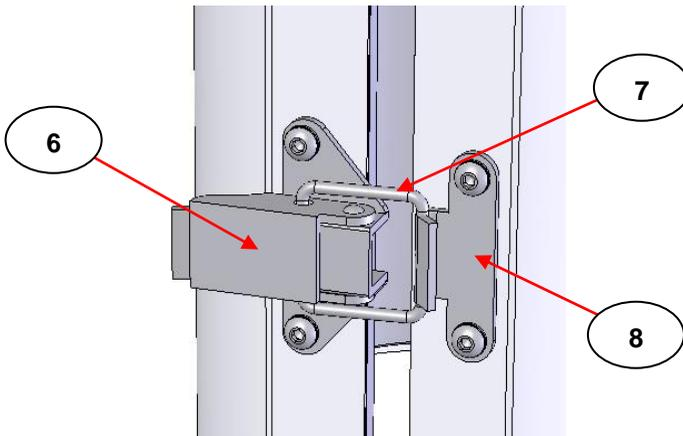

Fig 2. Tab Clip Bracket (2) on Inner Heating Jacket (1)
Fig 2. shows a close-up detail of the tab clip bracket (2) fixing. To open the inner heating jacket (1), the tab (6) is pulled outwards to release the clip (7) from its catch (8) and then the two “C” section bodies can be hinged apart. To close and lock the inner heating jacket (1), bring the two “C” section bodies opening edges close together (1) and engage the clip (7) over the catch (8). Then push the tab (6) to pull the two hinged “C” section bodies (1) together for a tight close fit.